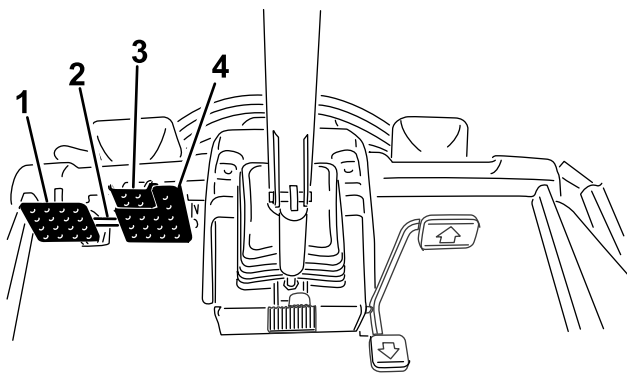

Figure 29
- Disconnect the pedal-locking latch (Figure 29).